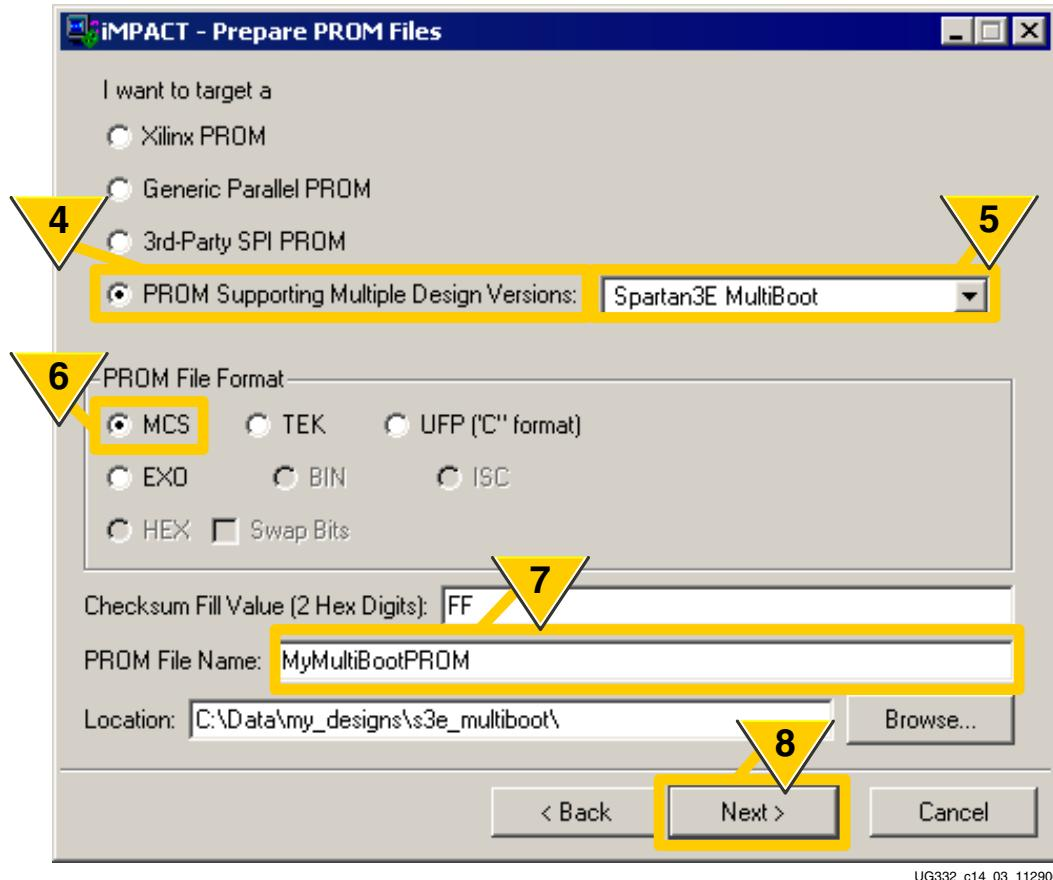

Figure 14-3: Select a PROM Supporting MultiBoot for Spartan-3E FPGAs
4. As shown in Figure 14-3, target a PROM Supporting Multiple Design Revisions.